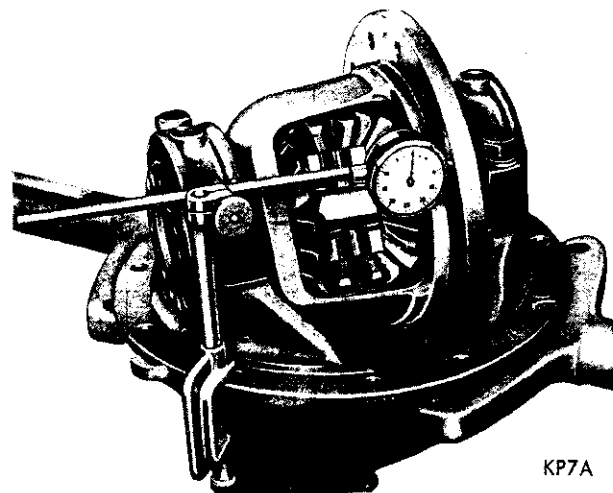

Fig. 19—Checking Drive Gear Mounting Flange Face Runout
(3) If drive gear runout exceeded .005 inch in step 2 (under "Carrier Disassembly"), recheck the case as follows: Install differential case and respective bearing cups in carrier.
(4) Install bearing caps, cap bolts and bearing adjusters. Tighten bearing cap bolts down tightly and screw in both adjusters with spanner wrench Tool C-406A.
(5) Tighten cap bolts and adjusters sufficiently to prevent any side play in bearings.
(6) Attach a dial indicator Tool C-3339 to carrier flange so pointer of indicator squarely contacts drive gear surface of differential case flange between outer edge flange and drive gear bolt holes (Fig. 19).
(7) Rotate differential case several complete revolutions while noting total indicator reading. This reading must not exceed .003 inch runout. If runout is in excess of .003 inch, differential case must be replaced. In a case where the runout does not exceed .003 inch it is often possible to reduce the runout by positioning the drive gear 180° from point of maximum runout when reassembling drive gear on differential case.
(8) With a flat nose drift and hammer, remove differential pinion shaft lock pin from back side of drive gear flange. (The hole is reamed only part way through, making it necessary to remove lock pin from one direction.)
(9) With a brass drift and hammer, remove differential pinion shaft and axle drive shaft thrust block.
(10) Rotate differential side gears until each differential pinion appears at large opening of case. Remove each pinion and thrust washer at that time.
(11) Remove both differential side gears and thrust washers.